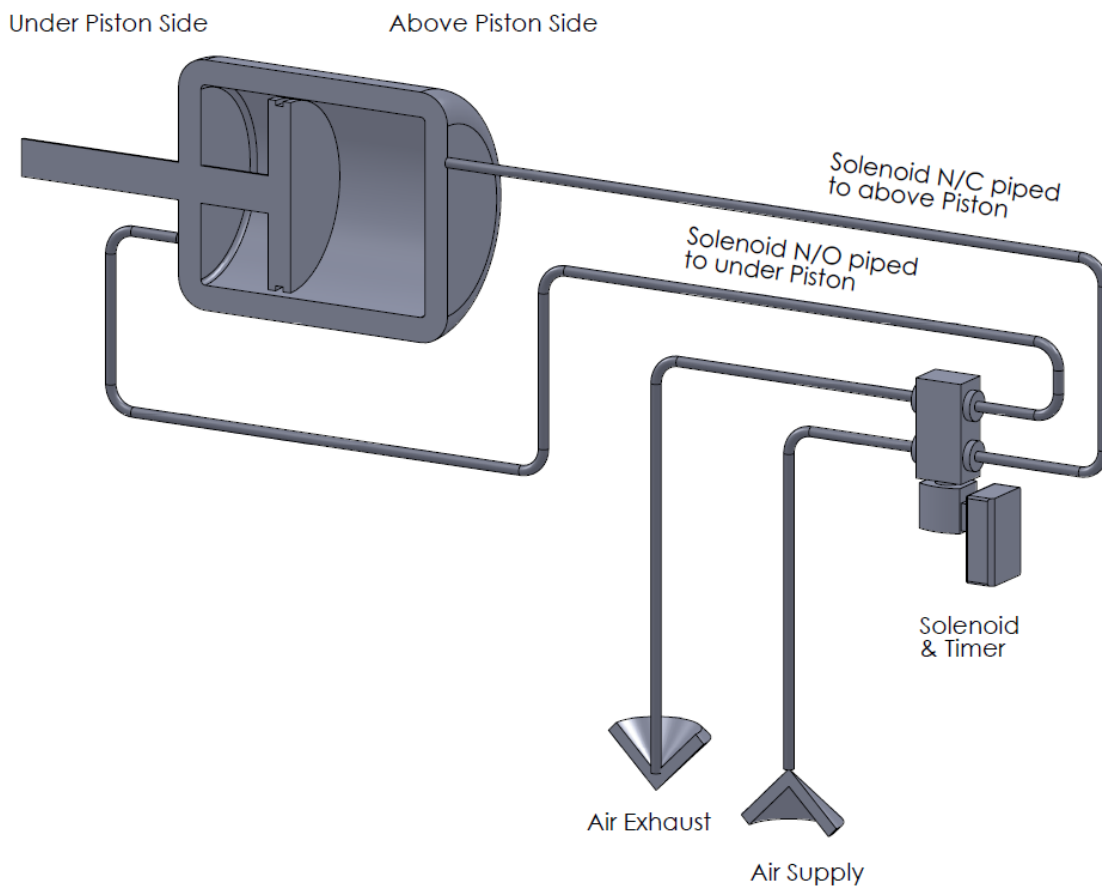
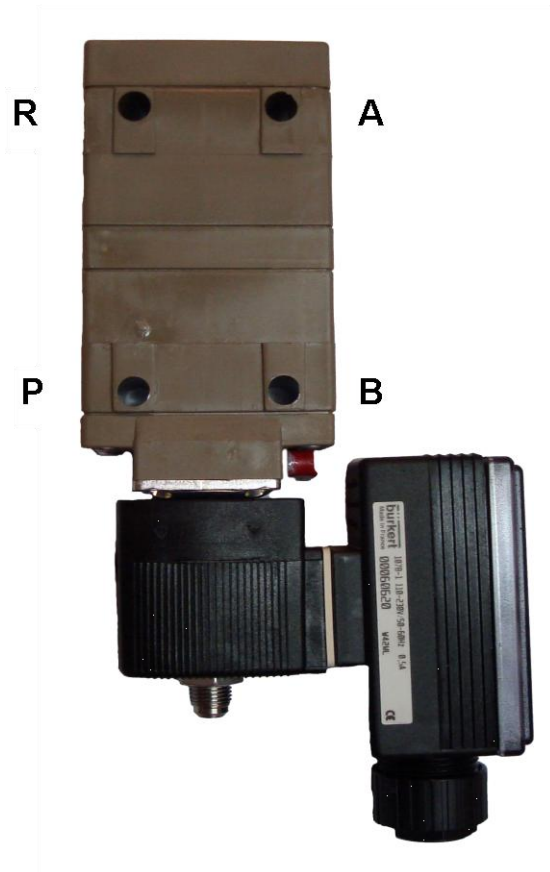

Figure 13: Solenoid Piping Schematic
Figure 15: Burkert Solenoid
The eDART thief sampler is piped in the following way (Figure 13, below).
Figure 15 shows the pneumatic connections to the 4/2 way solenoid. Refer to Figure 13 for the piping schematic. Please note that some solenoids supplied are 5/2 way which only means that there are two exhausts (R). Please also note that there is a means to reverse the N/O and N/C ports; this should be set in the "Normal" position.